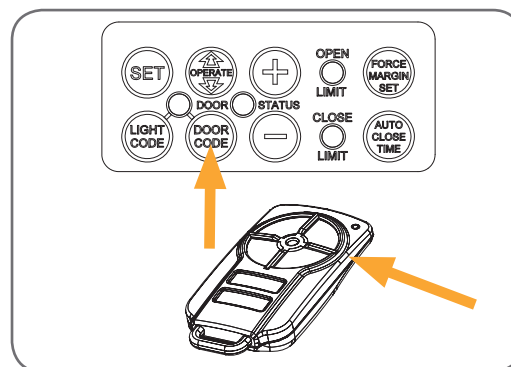

fig 32
- Press and hold the DOOR CODE button (Fig. 32).
- Press one of the four buttons on the transmitter for two (2) seconds, pause for two (2) seconds, then press the same button again for two (2) seconds.